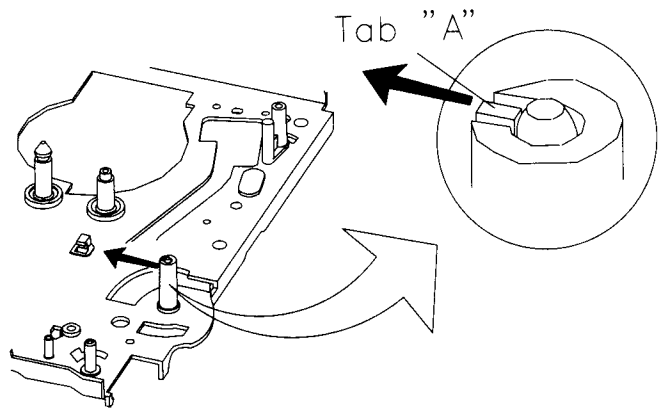

Fig.3-16 TENSION BAND ASS'Y REMOVAL ( II )
- b. Turn the DECK MECHANISM over. (Fig.3-16)
- c. After separating the tab of hook 'A', remove the TENSION BAND ASSEMBLY ③. (Fig.3-16)